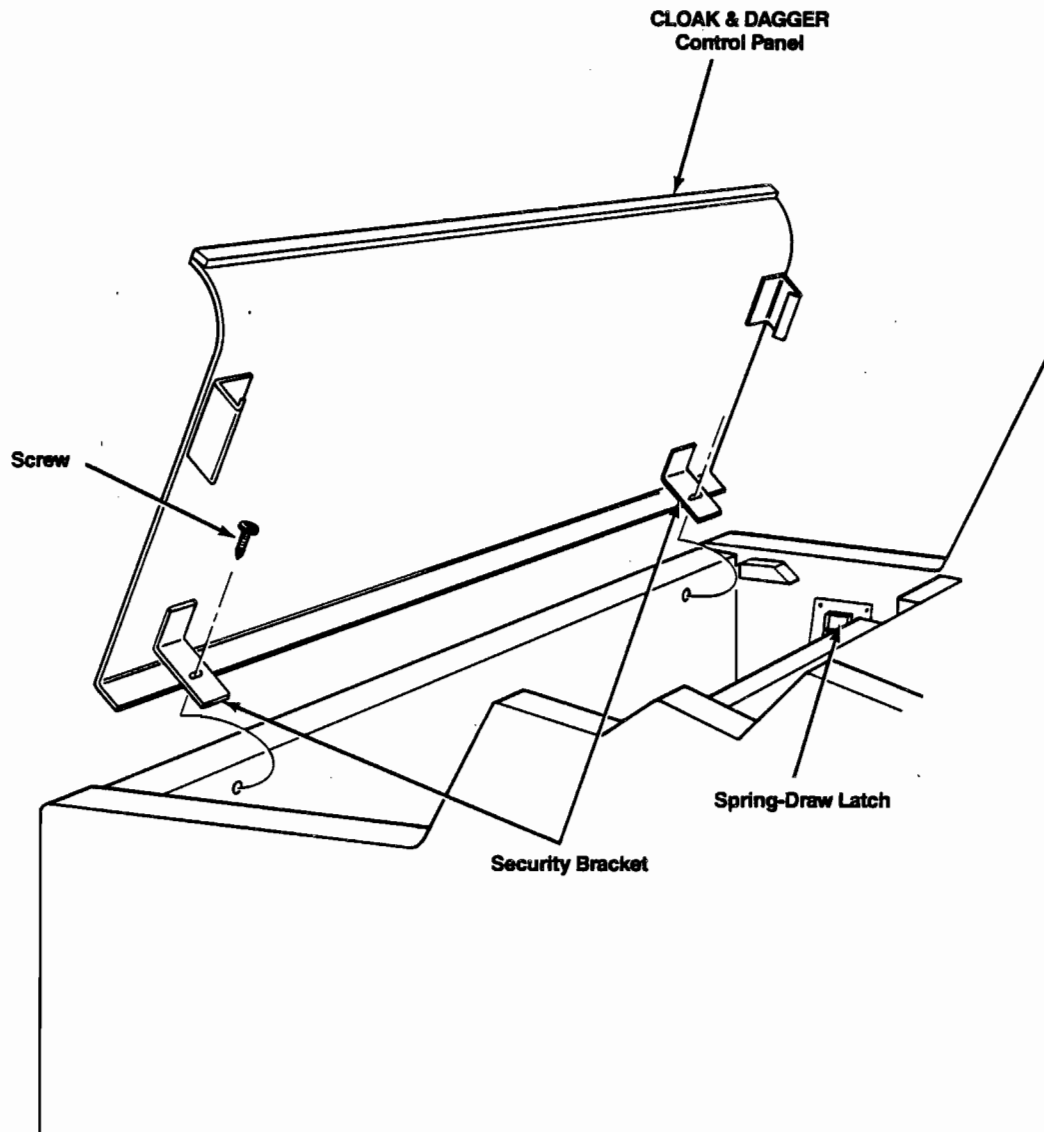

Figure 3 CLOAK & DAGGER Control Panel Installation
1. Position the CLOAK & DAGGER control panel on the game cabinet (see Figure 3).